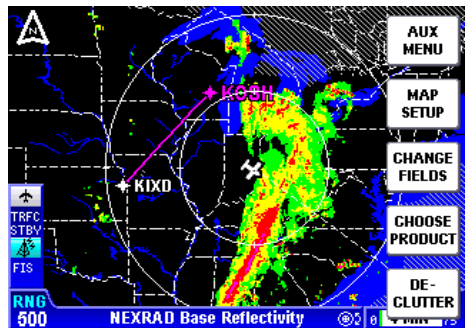

Figure 2-22
1. Press the **MENU** Key to display Figure 2-22.